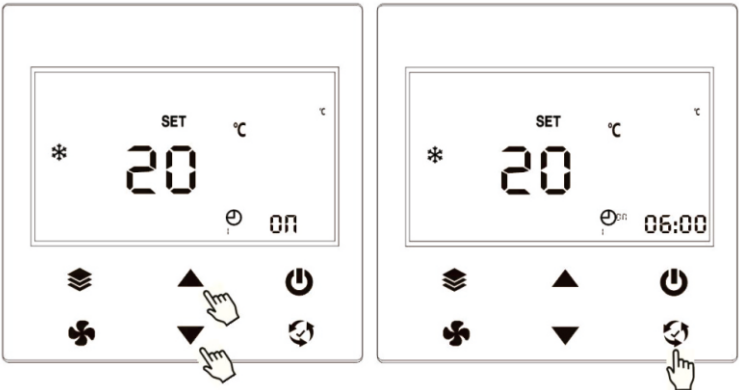
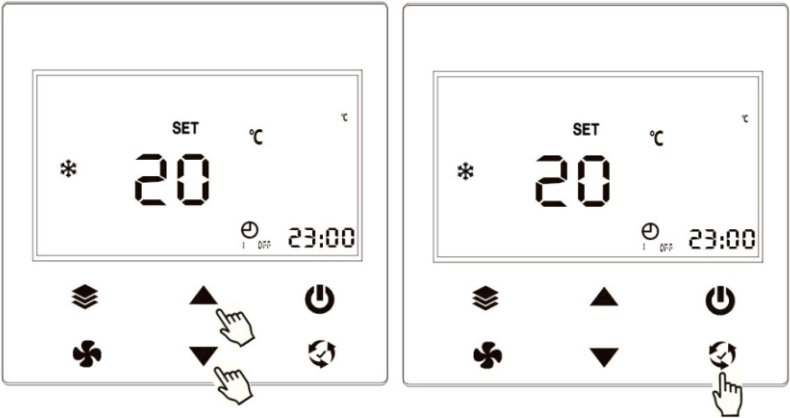

Figure 9. Set time period 1 boot timing time
Figure 10. Set time period 1 shutdown timing time
1. After selectingthe timing to enable,that is, after the timing is displayed  at the time, short pressthe button  to enter the timing power-on-time setting, as shown in the rightmost picture in Figure10.At this time, the time is blinking.
2. Set the power-on time by short-pressing or long-pressing for 5 seconds  or  button. For example, set the power on at 6:00. When the time is adjusted to 6:00, press the button  to indicate that the time period timing power-on time setting is completed (such as Figure 9). At this time, the interface will jump to the time period 1 timer shutdown time setting, the shutdown timer time flashes, as shown in the leftmost side of Figure 10.